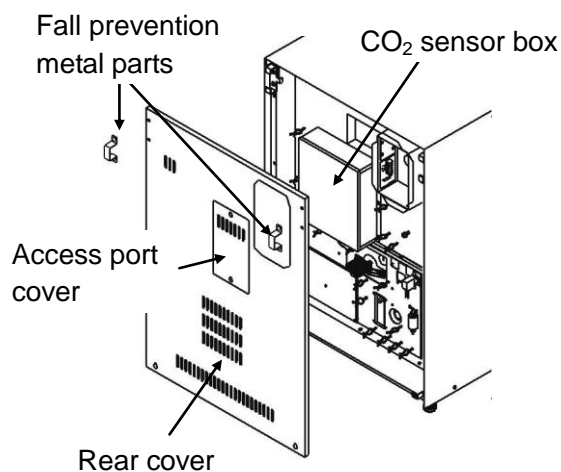

Figure 2
3. Remove rear cover and CO₂ sensor box in Figure 2.